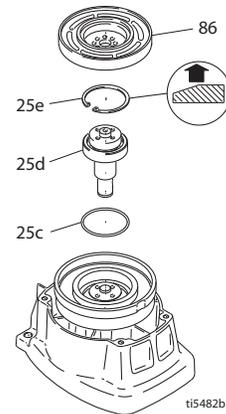

Fig. 6
- 7 Fig. 6. Remove retaining ring (25e).
- 1 Fig. 6. Check o-ring (25c) and replace if missing or damaged.